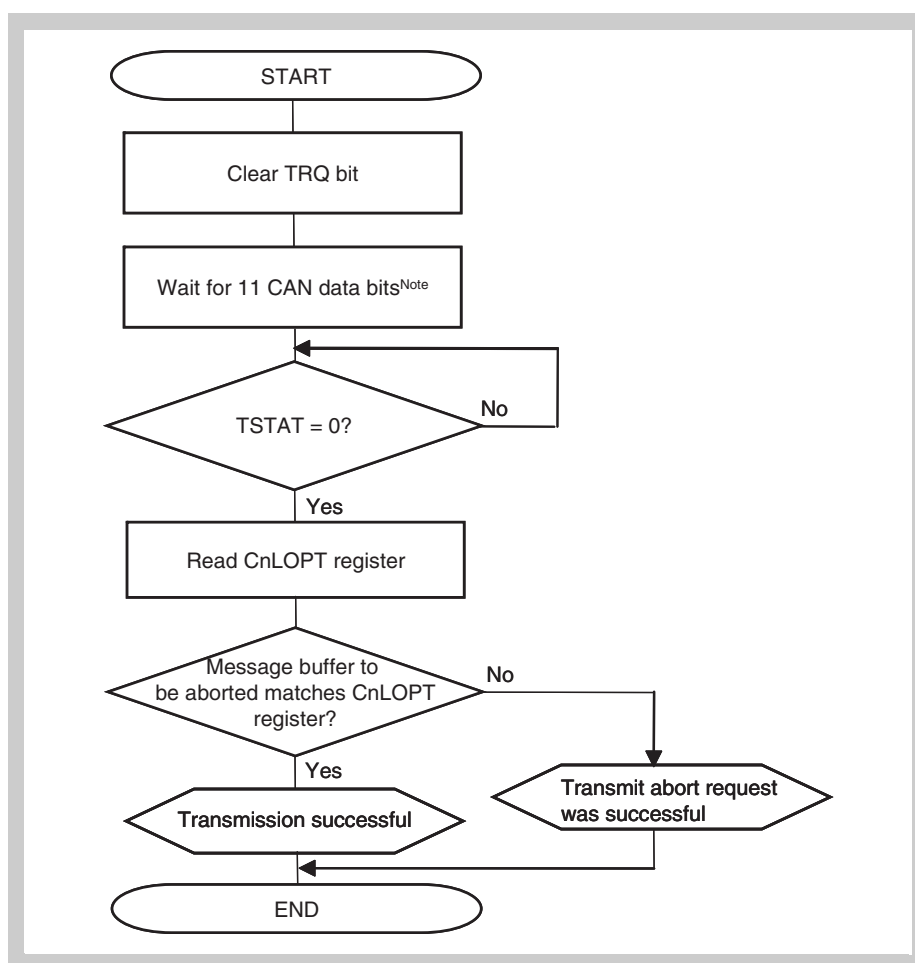
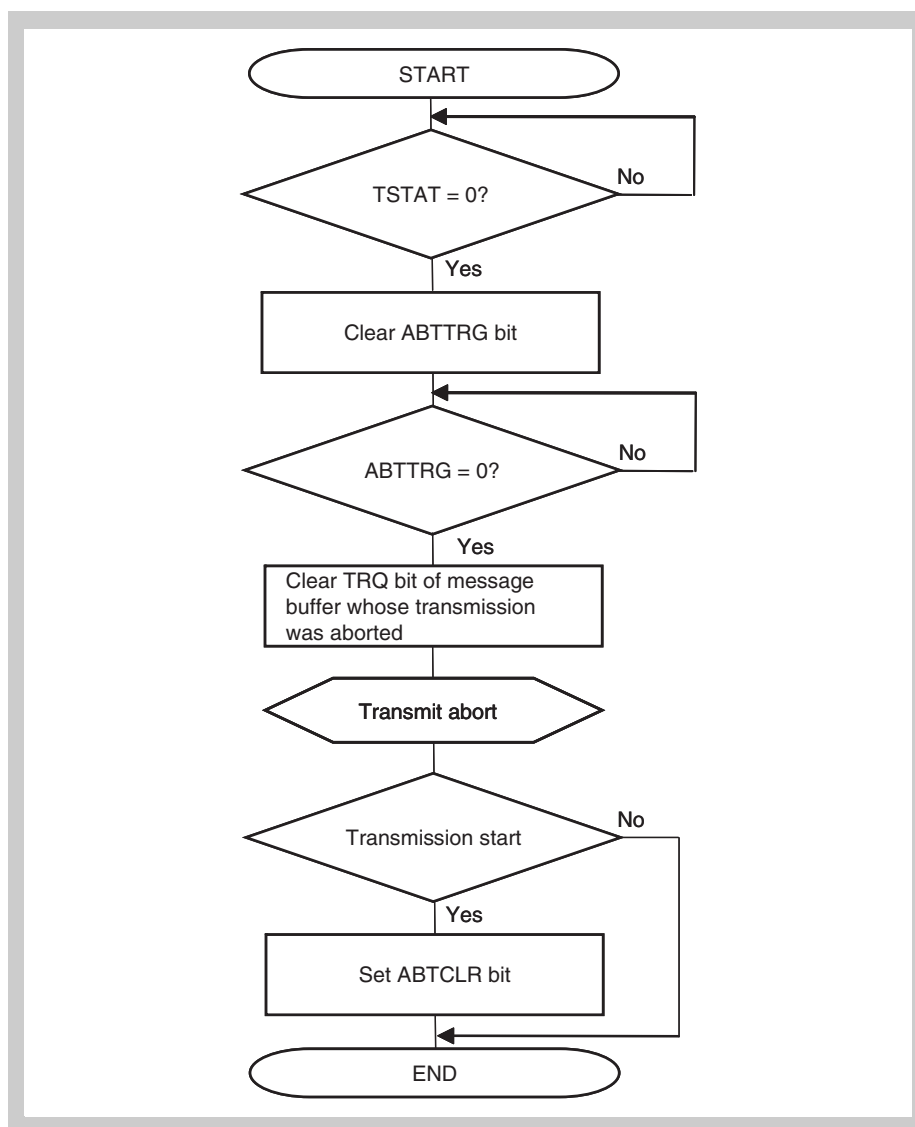
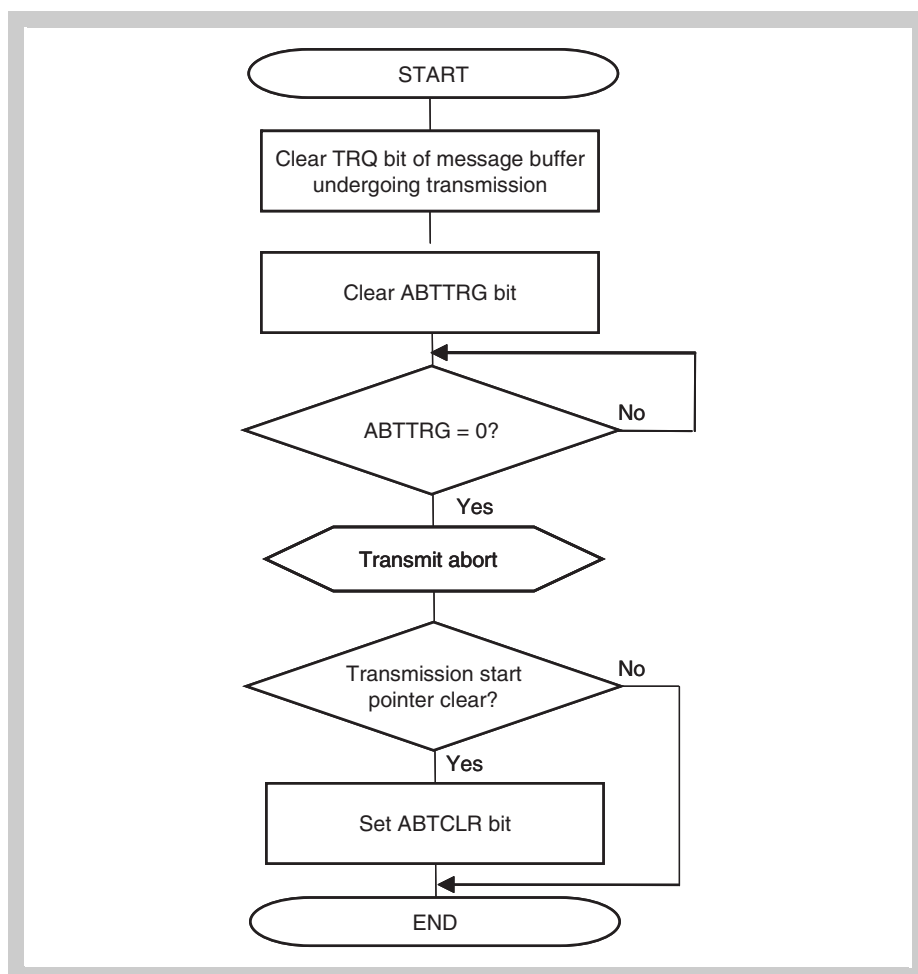

Figure 20-45 Transmission abort processing (except normal operation mode with ABT)
Figure 20-47 Transmission abort processing (normal operation mode with ABT)
Figure 20-48 ABT transmission request abort processing (normal operation mode with ABT)
Figure 20-47 shows the processing to skip resumption of transmitting a message that was stopped when transmission of an ABT message buffer was aborted.
2. Make a CAN sleep mode/CAN stop mode transition request after the ABTTRG bit is cleared (after ABT mode is aborted) following the procedure shown in *Figure 20-47* or *Figure 20-48*. When clearing a transmission request in an area other than the ABT area, follow the procedure shown in *Figure 20-45* on page 801.
Figure 20-48 shows the processing to not skip resumption of transmitting a message that was stopped when transmission of an ABT message buffer was aborted.
2. Make a CAN sleep mode/CAN stop mode request after the ABTTRG bit is cleared (after ABT mode is stopped) following the procedure shown in *Figure 20-47* or *Figure 20-48*. When clearing a transmission request in an area other than the ABT area, follow the procedure shown in *Figure 20-45* on page 801.
Caution To abort transmission before making a request for the CAN sleep mode, perform processing according to Figure 20-45 on page 801 and Figure 20-47 on page 803.